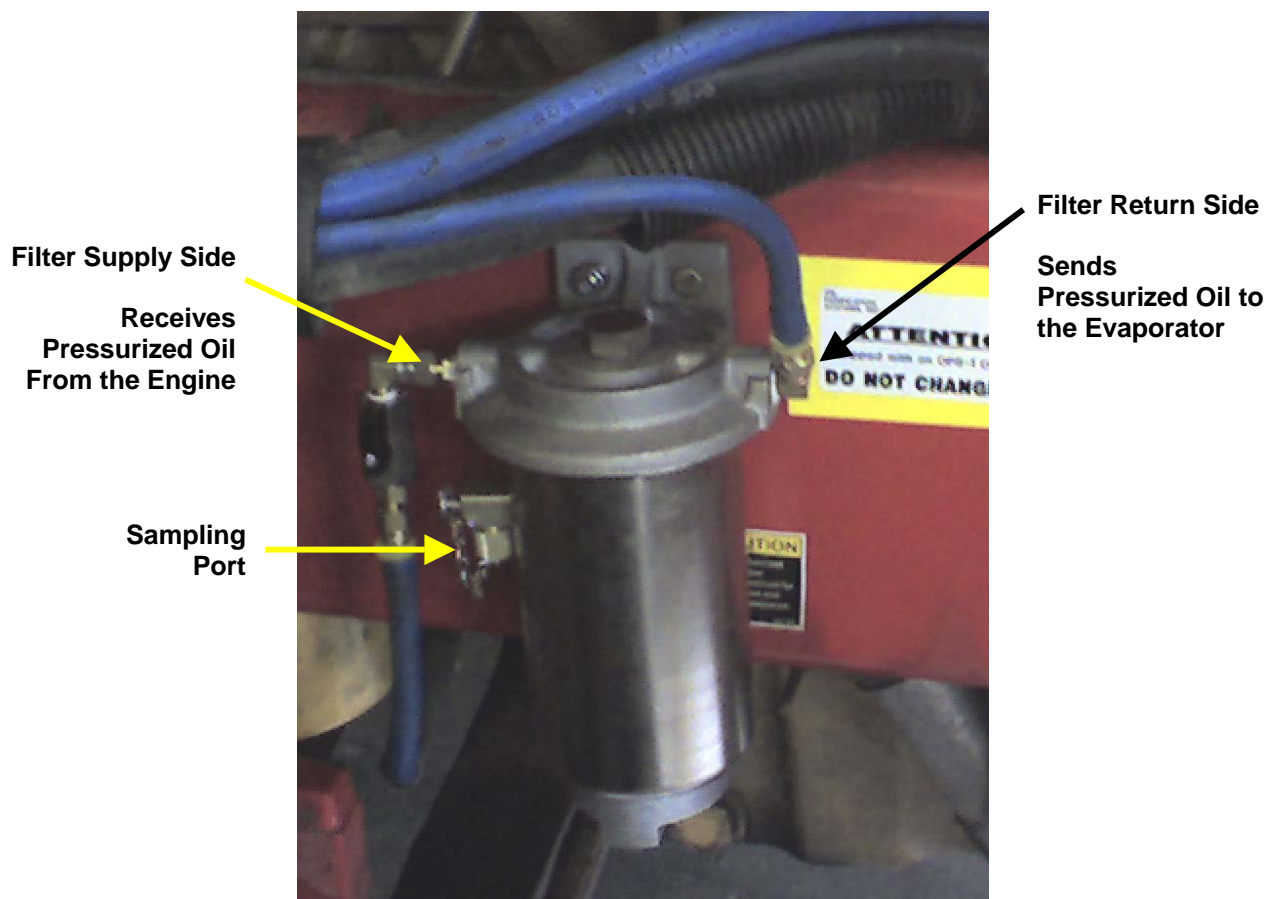

Figure 5 – Mounting the Filter
1. Drill two 5/16” holes in the frame, about 2” from the top, using the filter bracket as a template. See Figure 5.